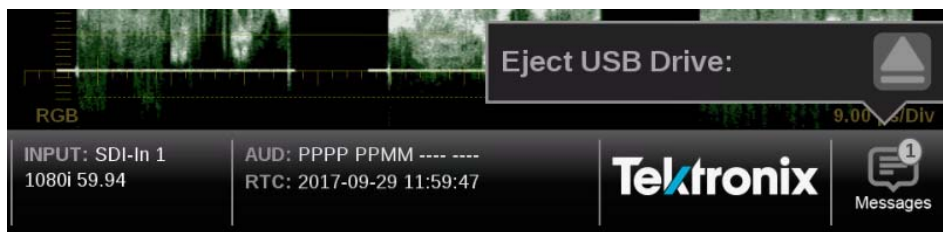

Figure 11: Message center popup window
2. Select the **Messages** icon to view the messages or devices mounted to the instrument. (See Figure 11.)